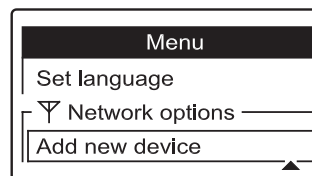

FIG. 96
2. Press the DOWN (▼) button to scroll through the menu options until **Add new device** is highlighted in a box (See Figure 96).
4. When the remote detects a signal from the device, the display will change to show that it has been added to the remote (See Figure 98). If another message appears instead, indicating the device was not added successfully, press the LEFT (◀) button to return to the screen in Figure 96. Repeat Step 3. If this does not work, contact your dealer for service.